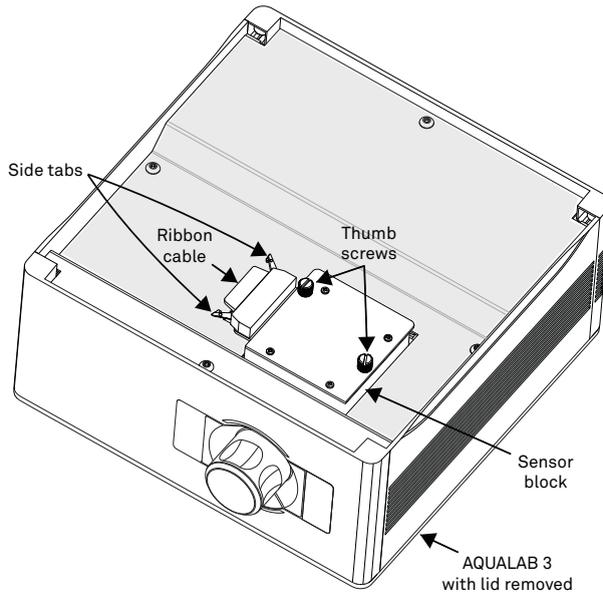

Figure 97 Sensor block in AQUALAB 3
5. Pull out on the side tabs to unplug the ribbon cable (Figure 97).